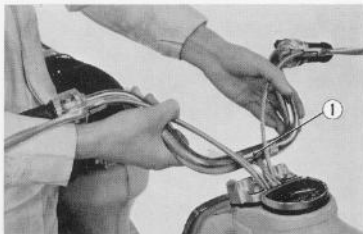

Fig. 4.14 Removing steering handle (CD 90 & CT 90)
6. Remove the four 6 mm hex bolts to separate the handle pipe upper holder. Then, pull out the steering handle ① together with the cables and electrical leads (Fig. 4.14) (CD 90 & CT 90)